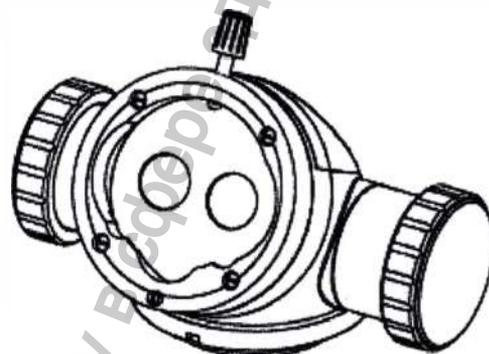

Fig. 23
13.2 Inclined beam splitter. (fig. 23)